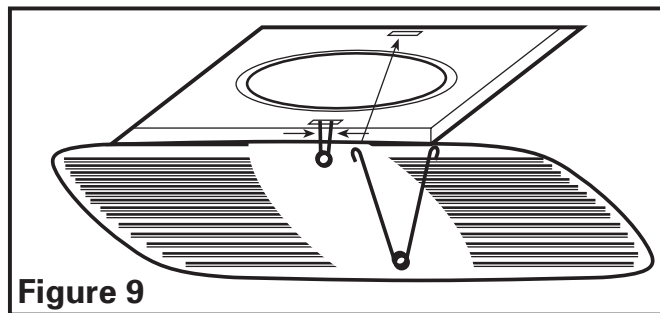

Figure 9
2. Install the grill by squeezing the two ends of the springs together and installing them up into the slots of the fan's housing. Push the grill up into position (**Figure 9**).